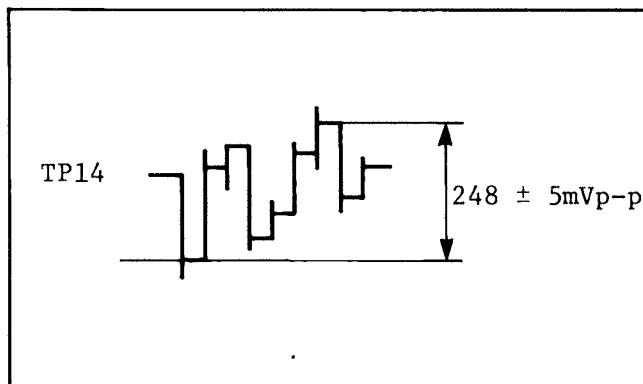

Fig. 2-5-13. I COMPRESSOR INPUT LEVEL
3. Adjust VR7 (I COMPR LEVEL) to 248 mVp-p $\pm$ 5mVp-p as shown in Fig. 2-5-13.